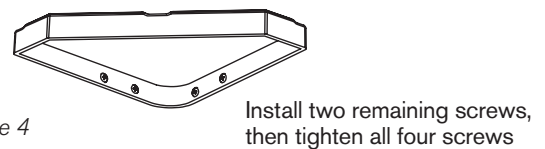

Figure 4
4. Hold the dish on the line you drew and install the second set of screws. Then tighten all four screws (*Figure 4*).